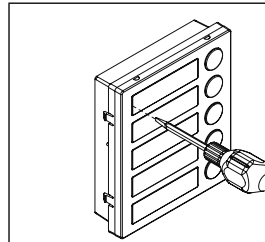

Fig. 7
- Insert the screwdriver (flat side) into the card-holder hole as shown in **Fig. 7**;